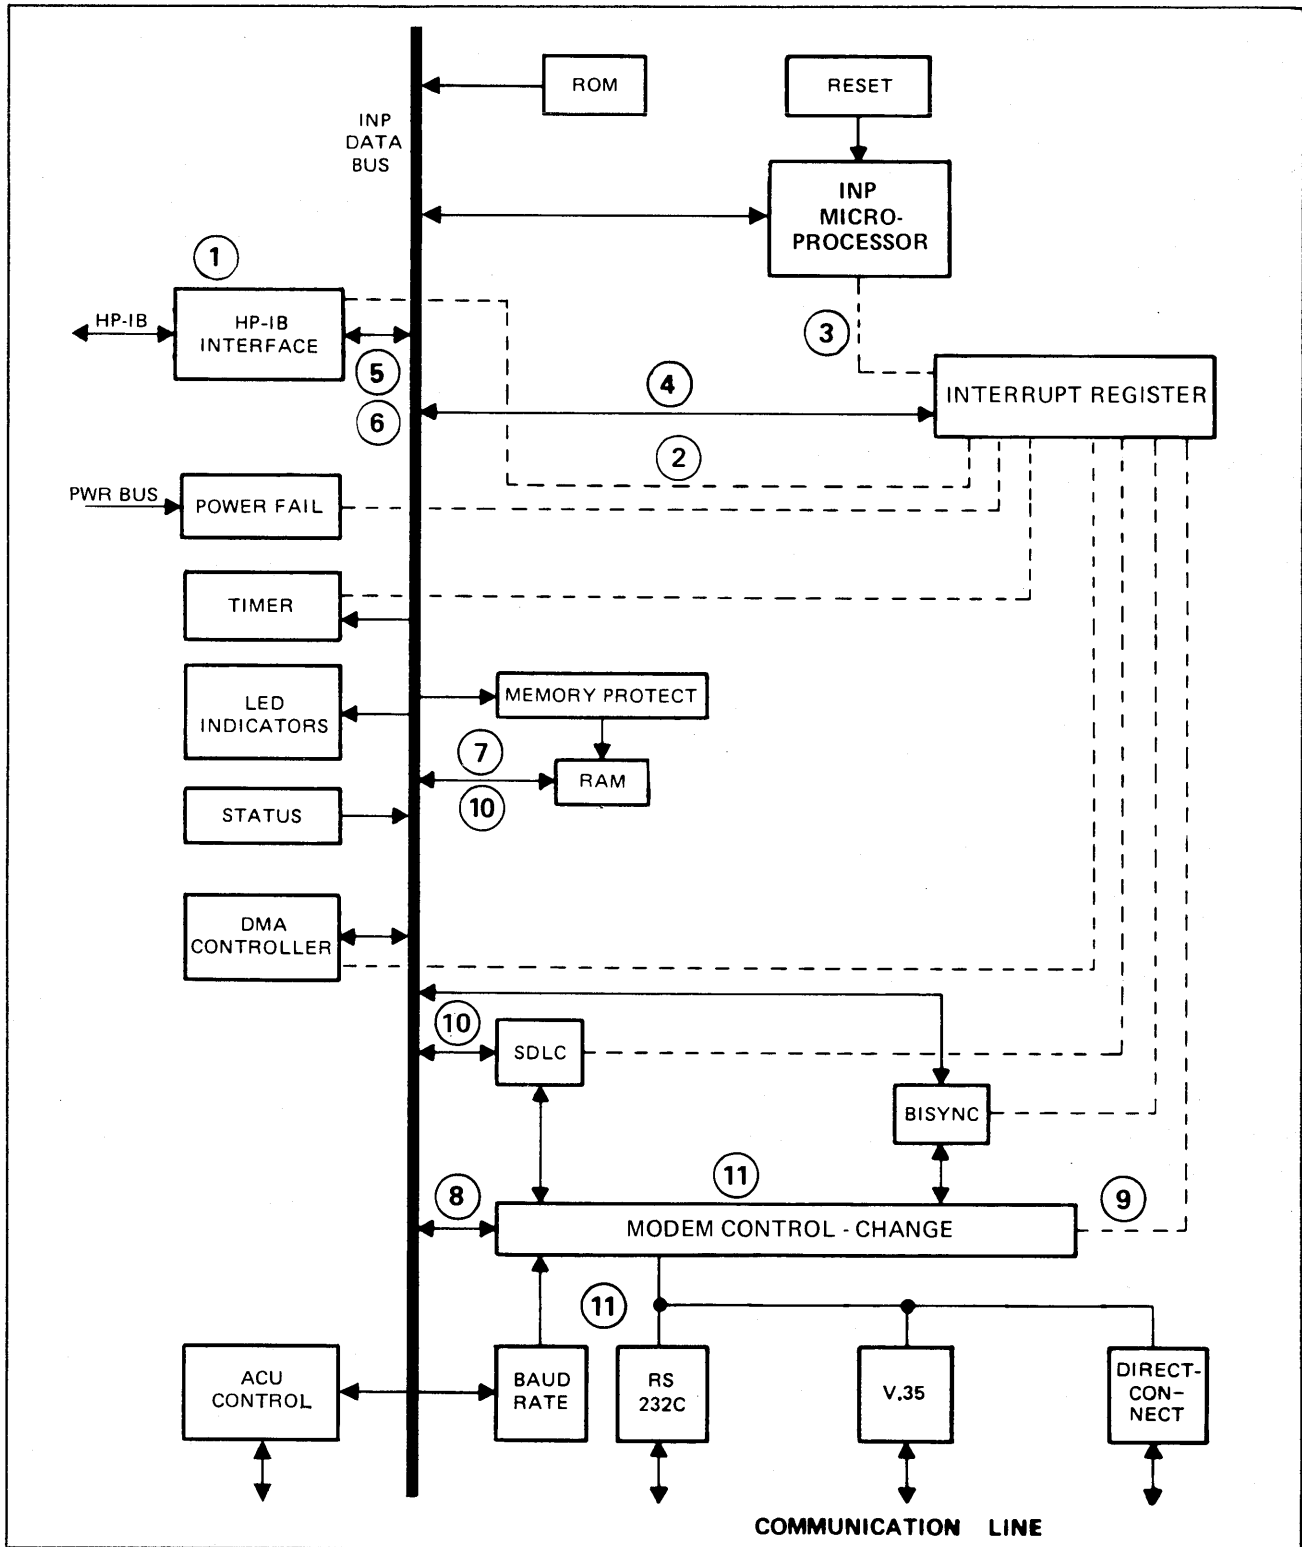

Figure 4-1. HP 30244M INP Block Diagram
A block diagram of INP organization of the major functional areas is shown in figure 4-1. The solid interconnecting lines in the block diagram represent data paths while the broken lines indicate service request paths.
In the following typical message transmission sequence, a modem telephone line is assumed as the communications medium. References are made to the functional areas, data paths, and service request paths within the block diagram in figure 4-1. The data paths and service request paths being referenced are identified in the diagram by circled numbers.
The flows from the HP 3000 into memory are represented by (6) and (7) in figure 4-1. Upon receiving a full block, the INP Microprocessor raises RTS, (8), and sets up an interrupt for when the modem returns CTS. When CTS becomes active, an interrupt is generated to the INP Microprocessor, (9). The INP Microprocessor then sends data from the INP RAM to the datacomm LSI devices, (10). The datacomm device that is being used serializes the data and sends it over the line, (11), effectively completing the initialization of data transmission.